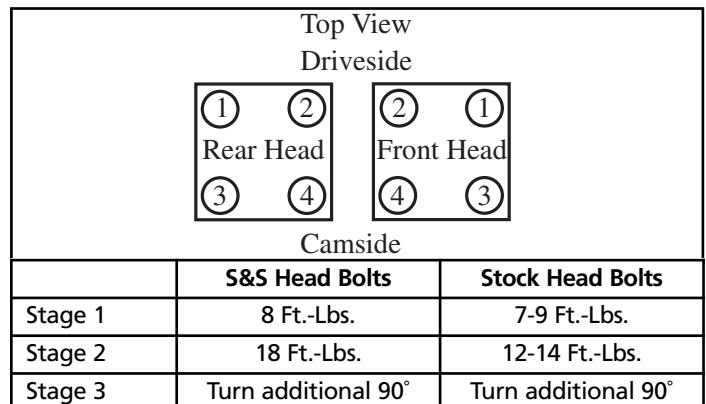

Figure 2
- I. Place one or two drops of oil on threads and under the head of each head bolt just prior to final assembly to reduce friction and insure accurate torque readings. Bolt heads on cylinders. Tighten bolts in stages using crossing pattern. See Figure 2.